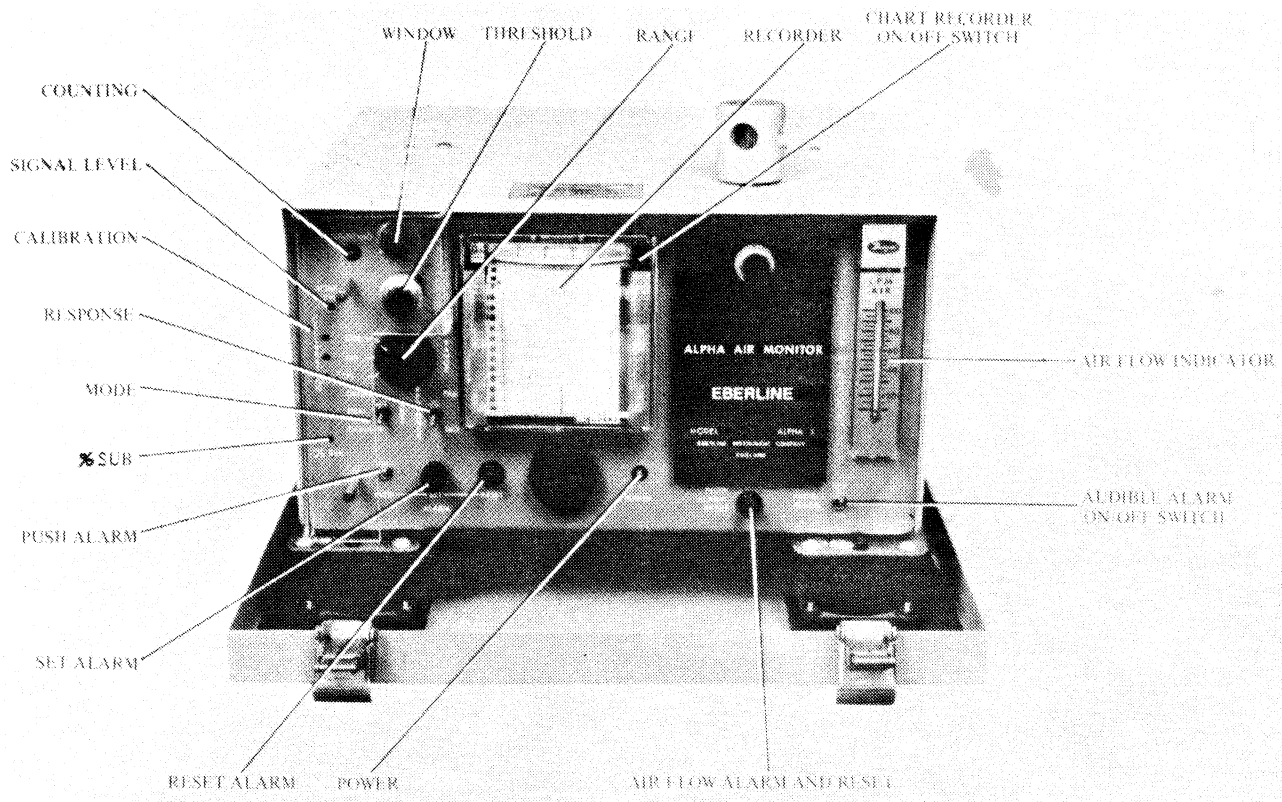

Fig. 1 Front Panel Controls
2. Figure 1 shows the location of all of the front panel controls and should be used when examining the following description of the controls and their purpose.
- 2.2 RECORDER: – Provides a permanent record of CPM over a set time period. Meter at top of recorder shows instantaneous CPM reading, the chart recorder can be switched off by switch indicated in fig. 1.